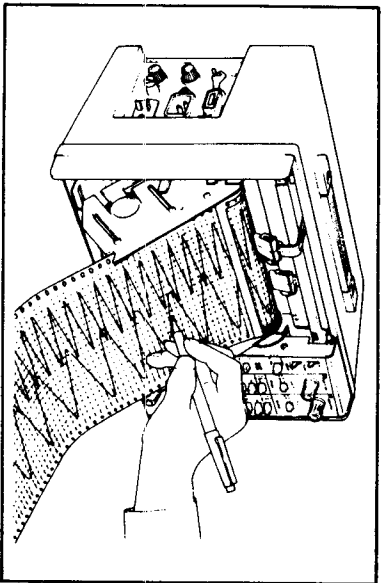

Figure 3-9.
(7) As shown in Figure 3-9, the chart compartment can be fixed on the slant to write data on the recording chart.